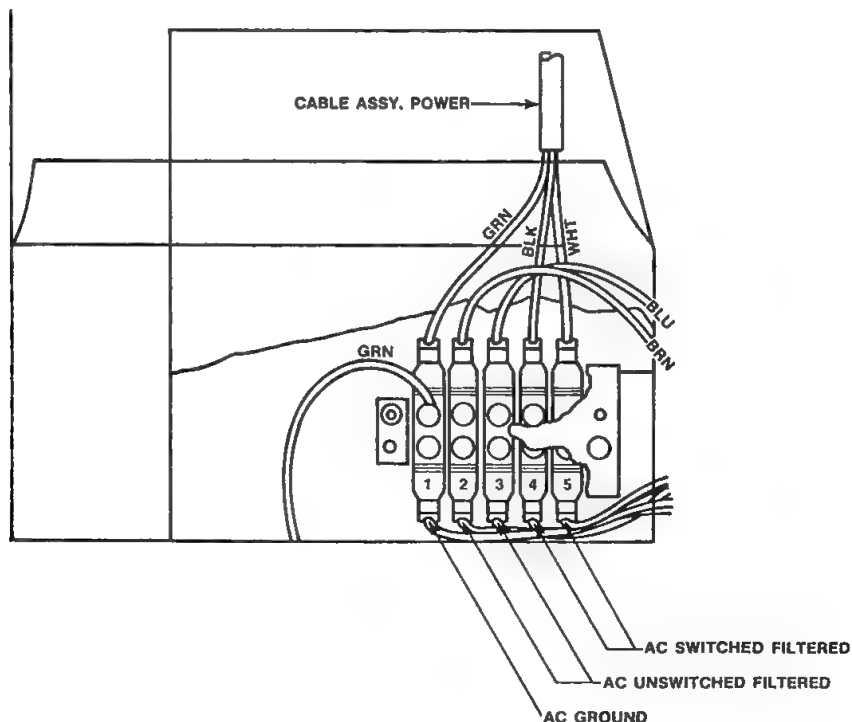

Figure 2-12. AC Terminal Strip Diagram
AC power for user supplied peripherals can be obtained from the AC terminal strip next to the AC power cord attachment on the rear of the unit. Positions 4 and 5 on the terminal strip are switched and filtered AC power, with position 1 being chassis ground, see Figure 2-12.
- f. Attach the necessary wires for AC power and ground using terminal lugs, see Figure 2-12.